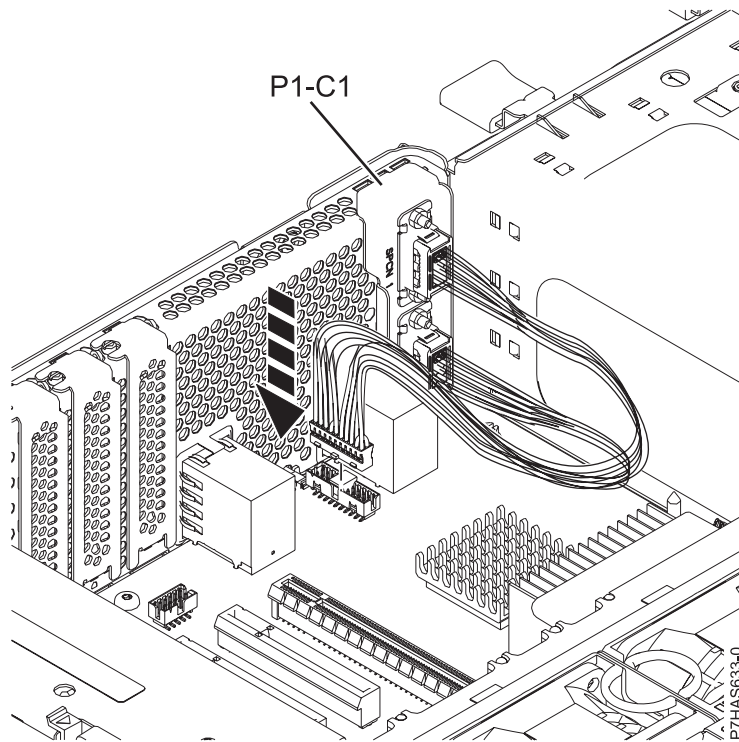

Figure 3. Installing the SPCN cable assembly
- c. Plug the other end of the cable into the connector on the system backplane, as shown in Figure 3.